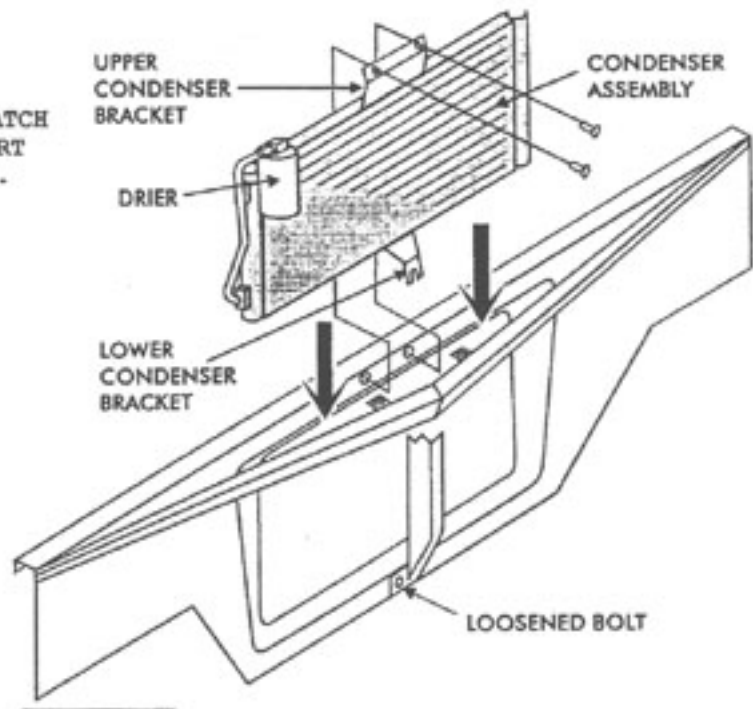

FIGURE 6A
4. Lower the condenser into the opening between the grille and the radiator core support as Figure 6A shows.
5. The lower condenser bracket is secured between the hood latch support brace and the radiator core support by the bolt loosened in step 2 as Figure 6A shows.
6. The upper condenser bracket is secured between the hood latch assembly and the radiator core support as Figure 6A shows.